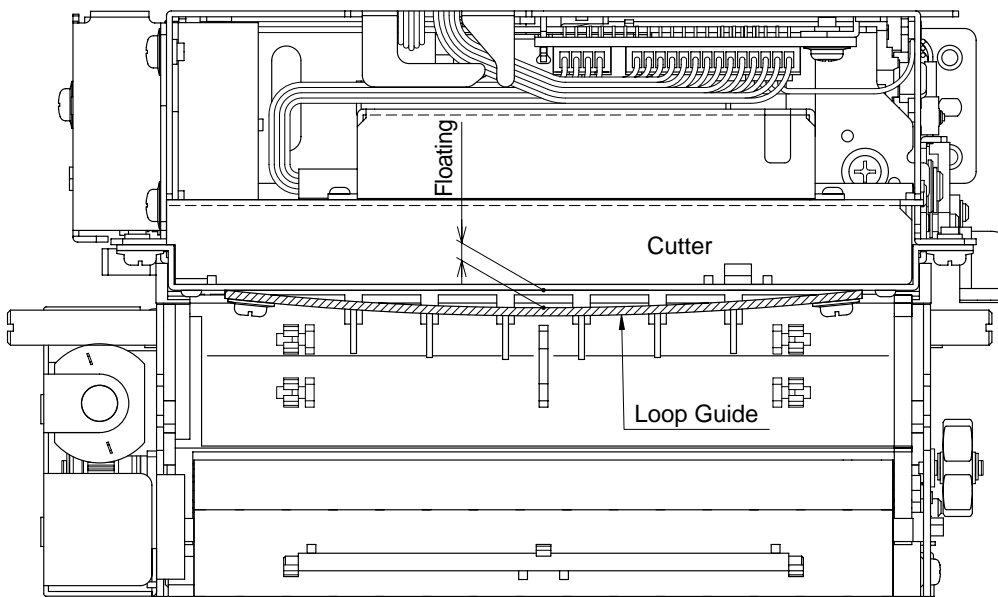

Figure 8-3
1. Position the loop guide and cutter in positioners ① and ②.
2. Tighten the screw next to the positioner ①.
3. While pulling the next loop guide in the direction of the arrow, tighten the screw next to the positioner ② so that it does not flow therebetween the cutter (see Fig. 8-3)
Note: Floating therebetween the cutter can occur because of deformation in the loop guide caused by sudden environmental changes. (See fig. 8-3) If that should occur, follow the directions above for the mounting of the loop guide and remount it so that it does not float.